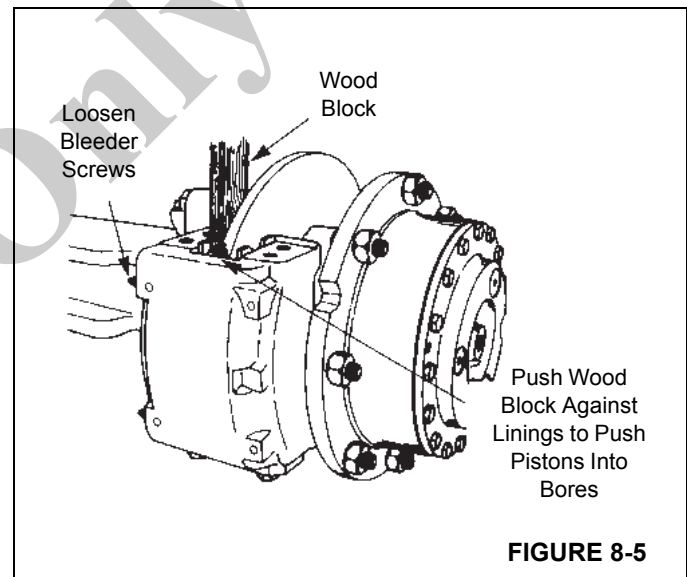

FIGURE 8-5
3. Use a piece of wood against the linings as a pry bar to push the pistons completely into the housing. Tighten the bleeder screws (Figure 8-5).